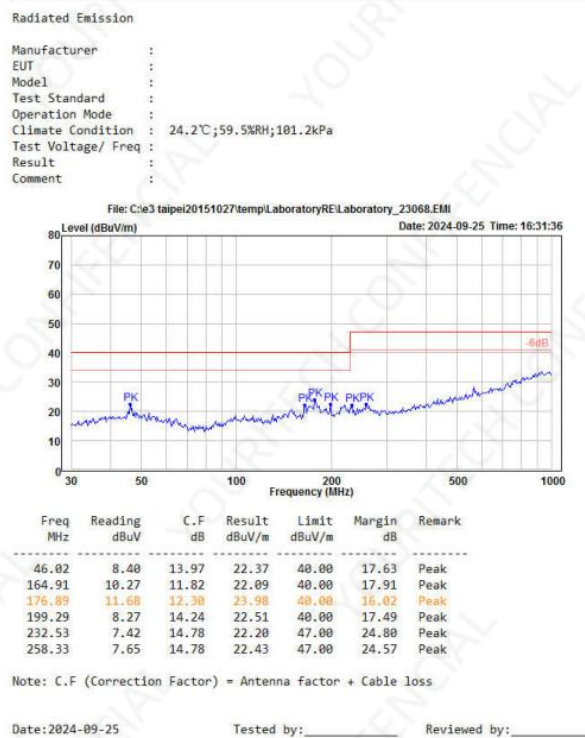

Figure 5-6: Horizontal direction of radiation measurement
1. Radiation test horizontal test data, shown in Figure 5-6.